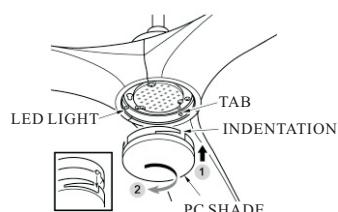

FIG.17
6. Attach the PC shade by locating tabs in light kit with grooves on the light shade and twist clockwise until tight (See fig.17)